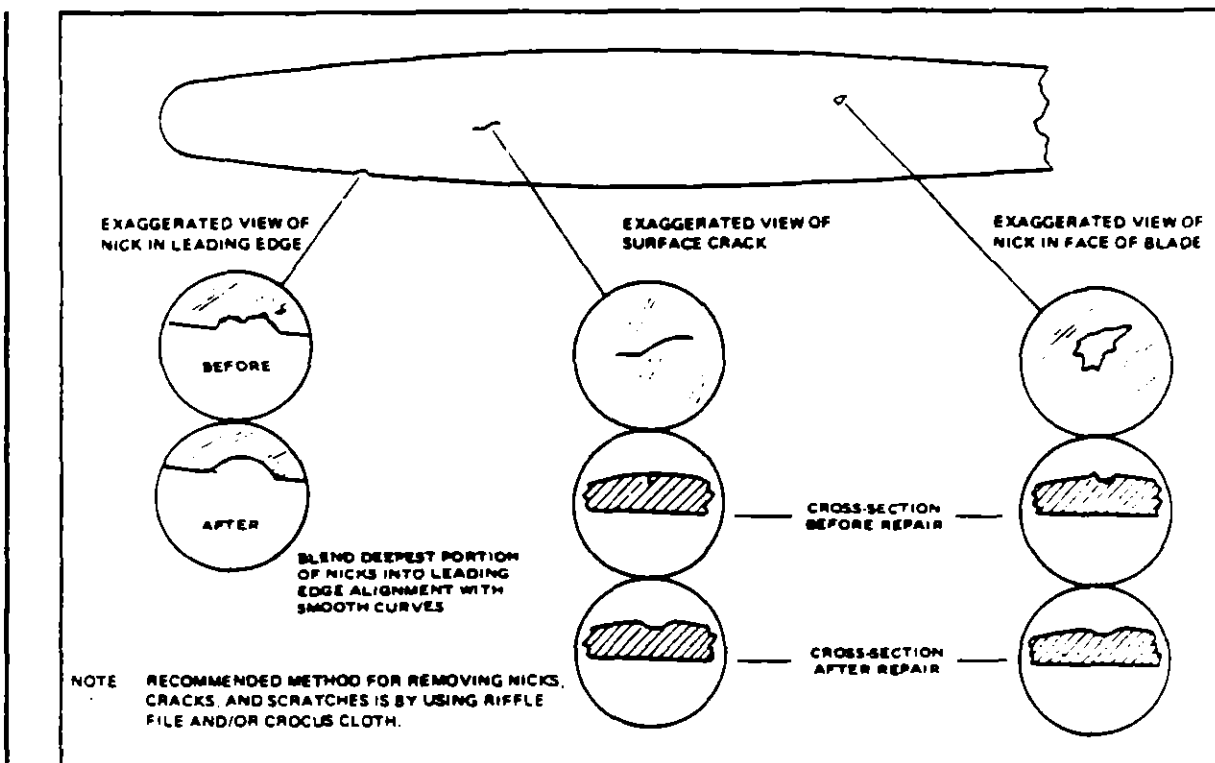

Figure 8A-3. Typical Nicks and Removal Methods
- g. Inspect blades for damage or cracks. Nicks in leading edges of blades should be filed out and all edges rounded, as cracks sometimes start from such places. Use fine emery cloth for finishing. Refer to Figure 8A-3 for propeller blade care.
8A-11. INSTALLATION OF PROPELLER. (Refer to Figure 8A-2.)
- b. Install spinner bulkhead (13) on propeller hub and secure with locknuts. Torque bolts to specifications given in Table VIIIA-I.
- d. Position the prop flange and starter ring gear so the two short bushings are horizontal. (Refer to Figure 8A-2.)
- e. Lubricate and install O-ring (15) in prop hub.
- f. Install sleeve (19), spring (18), thimble (17), and shim (16) in engine crankshaft on propeller installations NOT using the spring back-up system in the hub.
- i. Install spinner (7). Torque spinner screws (8) and check nut (4) per Table VIIIA-I. Safety check nut with MS20995-C41 wire.